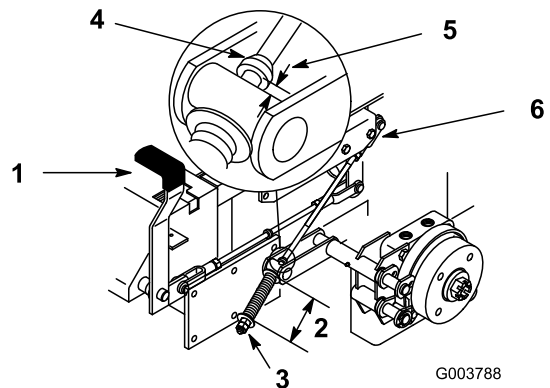

Figure 44
The measurement should be 2-3/4 inch (70 mm) between washers (Figure 44).
3. If adjustment is necessary, loosen the jam nut below the spring and tighten the nut directly below the yoke (Figure 44). Turn the nut until the correct measurement is obtained. Tighten the two nuts together and repeat on opposite side of unit.
The measurement should be 3/16-1/4 inch (5-7 mm) (Figure 44).
7. If adjustment is necessary, loosen the jam nut directly below the yoke. Turn the bottom rod until the correct measurement is obtained (Figure 44). Tighten jam nut at yoke